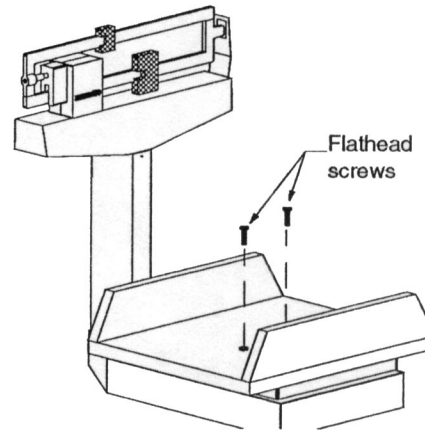

Figure 4 - View showing attachment of baby tray to scale platform base.
4. Attach baby tray to scale platform using the two (2) flat head screws provided. Do not overtighten screws. (see figure 4)